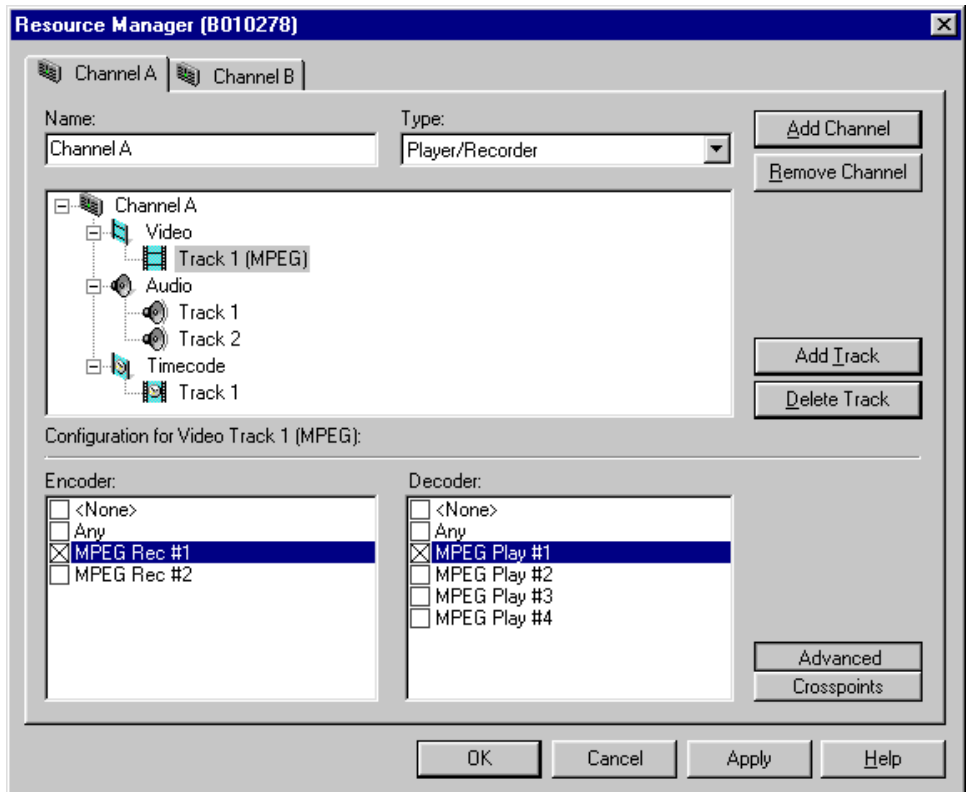
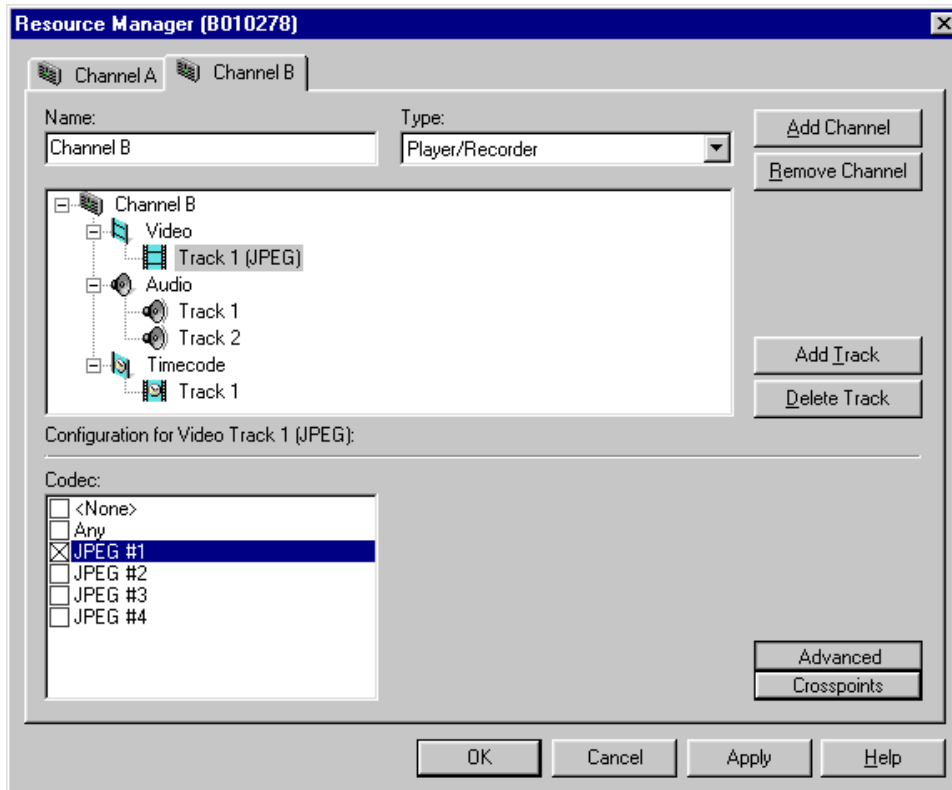

Figure 155. MPEG encoder and decoder check boxes
Figure 156. JPEG codec check boxes
- Click the **Advanced** button and make encoder and decoder selections for MPEG (see Figure 155), or a codec selection for JPEG (see Figure 156). You can choose only one video encoder, decoder, or codec at a time.